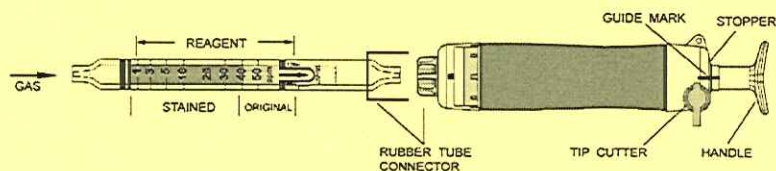

Fig.1
- ② Insert the detector tube into the aspirating pump securely as shown in Fig.1. (Arrow mark shall point to the pump.)
- ③ Align the guide marks on the shaft and stopper of the aspirating pump.
- ④ Pull the pump handle at a full stroke until it locks and wait for 4 minutes or until the completion of sampling is confirmed with the flow indicator of the pump. (See descriptions about the flow indicator in the instruction manual of the pump.)
- ⑤ On completion of sampling, read the scale at the maximum point of the stained layer.